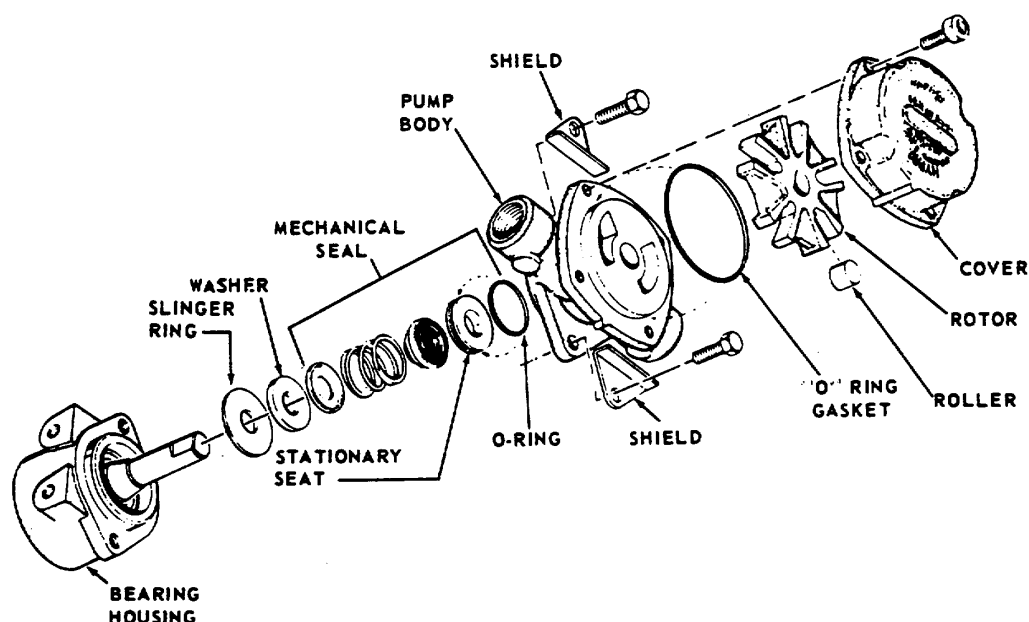

Figure 91A. HYPRO PUMP
- a. With 3/16 hex wrench, remove four screws that hold Cover to Pump Body (see Figure 91A). Remove Cover.
Mechanical Seal on shaft in order as indicated in Figure 91A. Insert Stationary Seal of Mechanical Seal with O-ring into counterbore on motor side of Pump Body. The polished side of the Stationary Seat must face the motor. Lightly oil O-ring on Stationary Seat to avoid tearing O-ring during insertion.